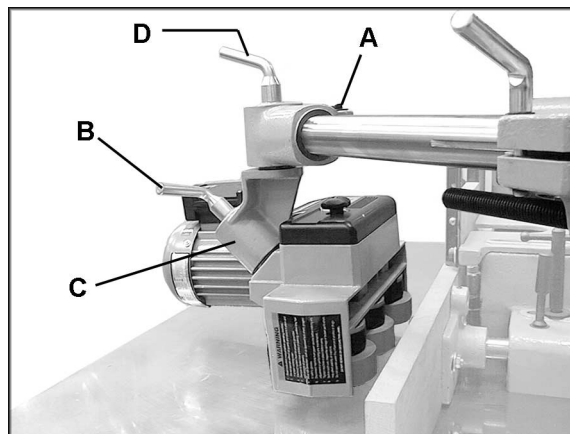

Figure 10
The stock feeder can be turned "edgewise" so that the feed is along the side of the workpiece. See Figure 10.
1. Loosen the screw on the arm cone (A, Figure 10) with a 14mm wrench, and slide the Stock Feeder off the horizontal arm.
2. Place the Stock Feeder edgewise with the rollers toward the bottom, as shown in Figure 10.
- Loosen lock handle (B, Figure 10) and rotate the swivel cone (C, Figure 10) 180-degrees, as shown in Figure 10.
- Re-tighten lock handle (B, Figure 10).
- Loosen lock handle (D, Figure 10) and rotate the arm cone as needed until it can slide back onto the horizontal arm. Tighten locking handle (D, Figure 10).
- Mount the Stock Feeder to the horizontal arm and tighten the screw (A, Figure 10).